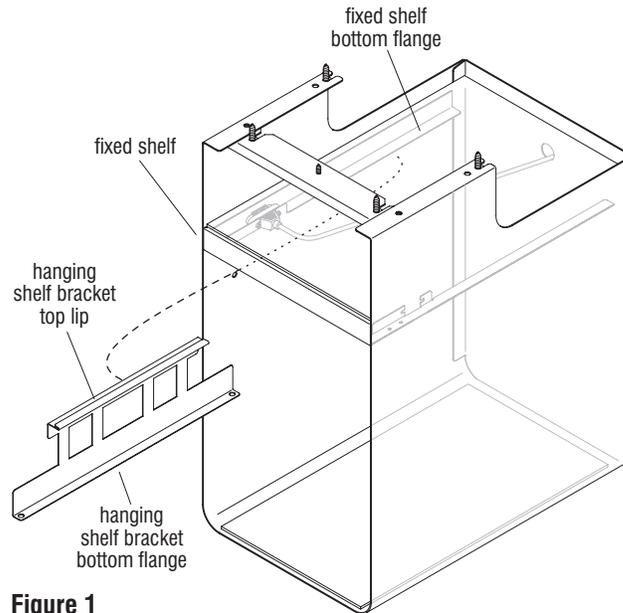

Figure 1
1. From inside the Bobbr storage unit, insert the top lip of one hanging shelf bracket over the bottom flange of the fixed shelf (Figure 1 & Detail A).